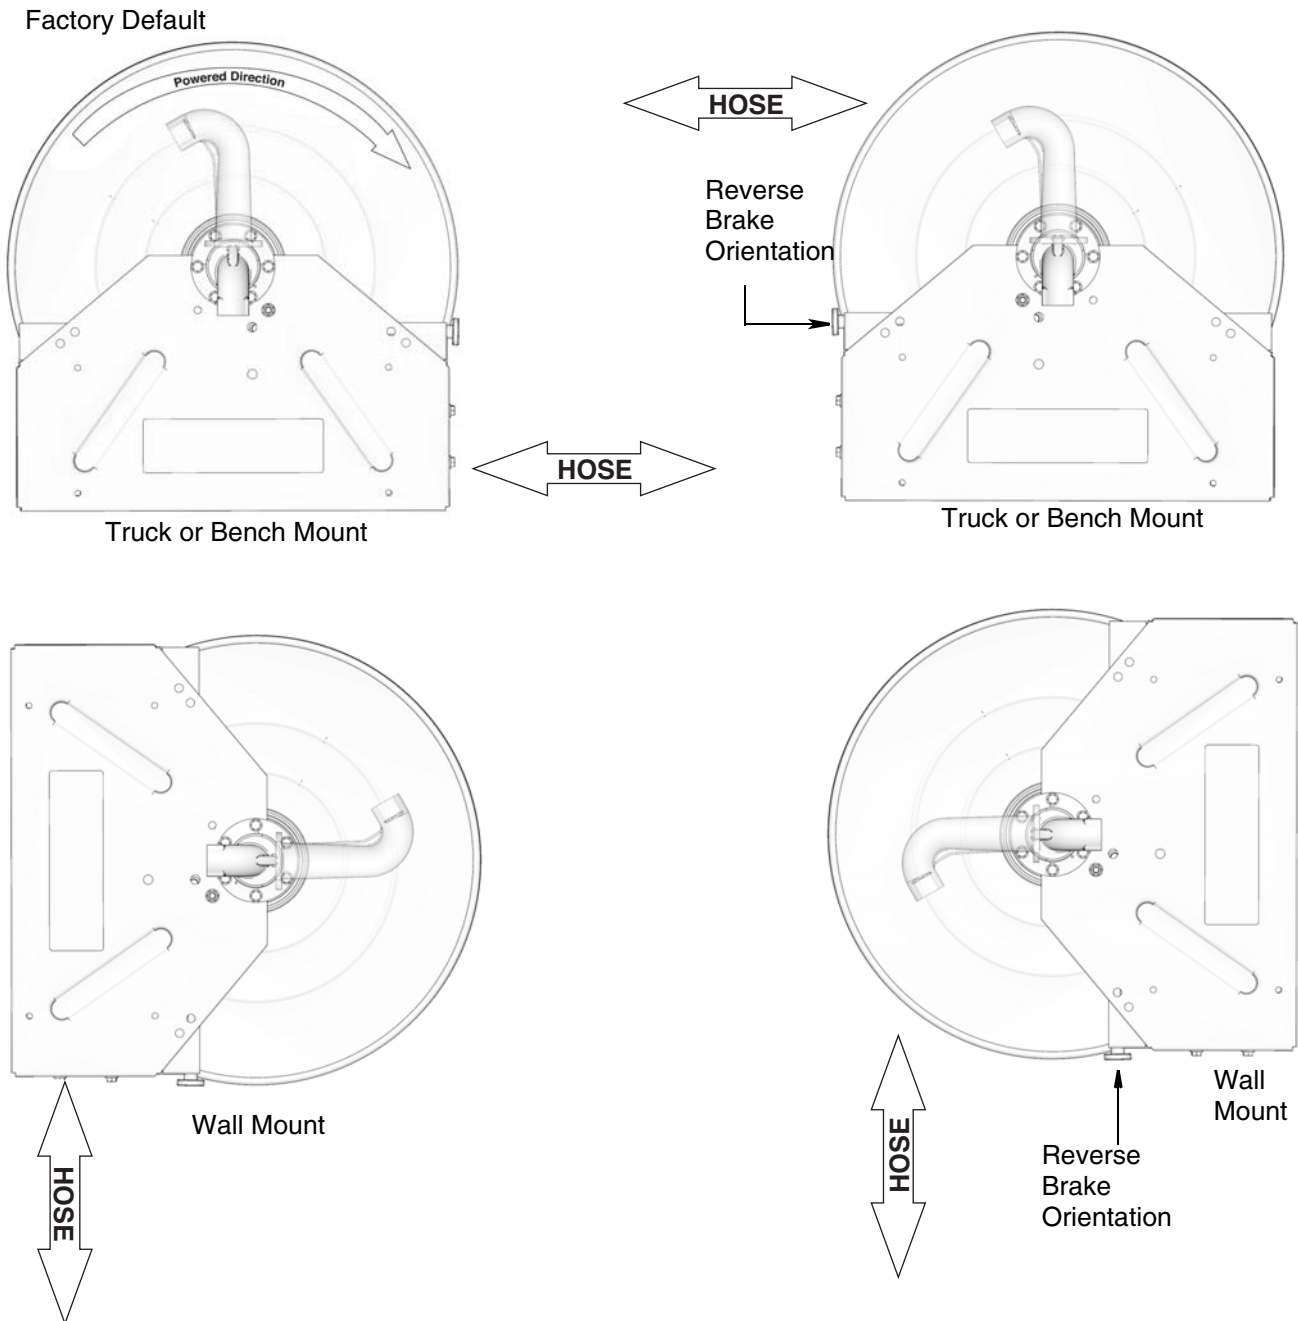
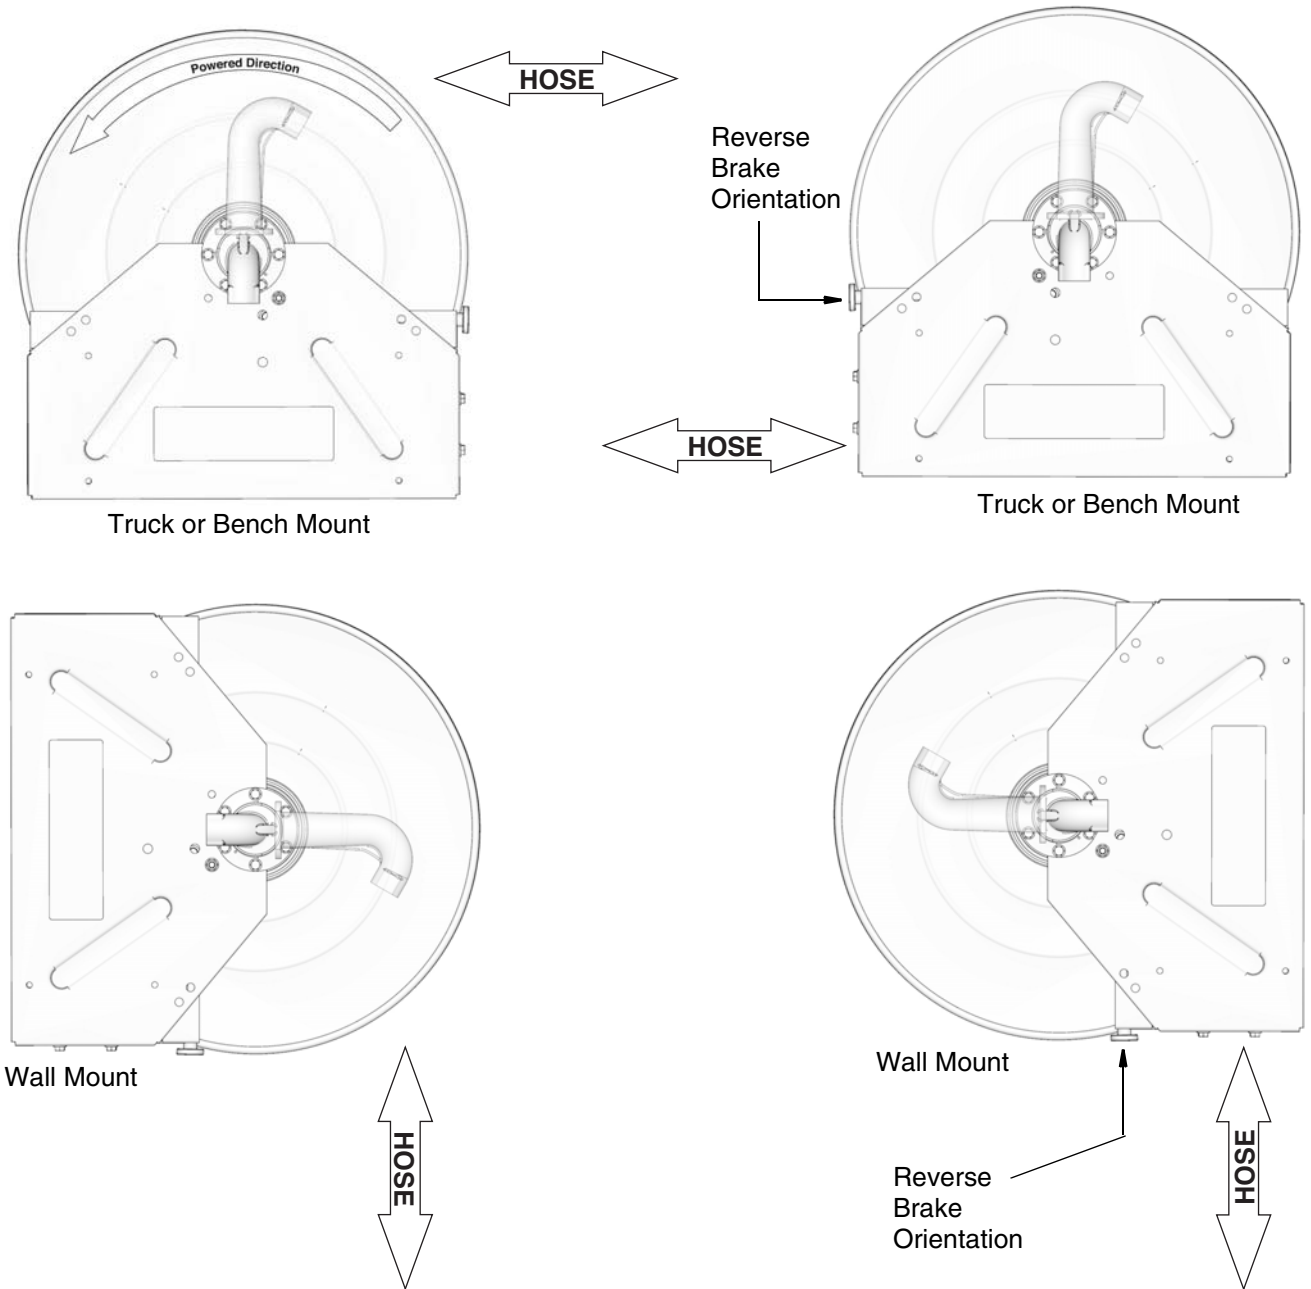

FIG. 22: Inlet Side Shown
FIG. 23: Inlet Side Shown
The outlet (17) orientation and motor (26) rotation can be altered as shown in FIG. 22-FIG. 23.
In the configurations shown in FIG. 22 the motor turns counter-clockwise under power when viewed from the motor side of the reel. All four configurations shown in FIG. 22 have the factory standard motor rotation and outlet orientation.
In the configurations shown in FIG. 23 the motor turns clockwise under power when viewed from the motor side of the reel. All four configurations shown in FIG. 23 require motor (26) rotation reversal and outlet (17) reversal.
3. Determine correct orientation for outlet (17) for your installation location. Refer to Outlet Orientation and Motor Rotation, FIG. 22, page 28 and FIG. 23, page 29.
5. Attach end of the hose to the outlet (17) using two wrenches on the flats, working in opposite direc-